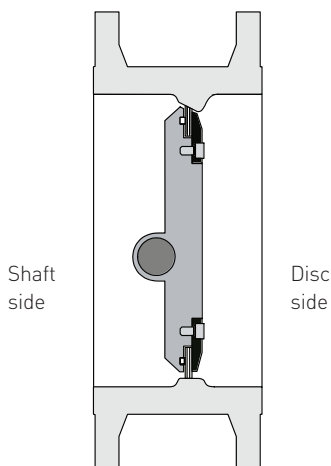

FIG. 2
- Vanessa Series 30,000 valves design is not symmetric. The two sides of the valve are identified as "Shaft side" and "Disc side". See Fig. 2. For the correct installation direction, please refer to the specific literature provided along with the supplied valve.